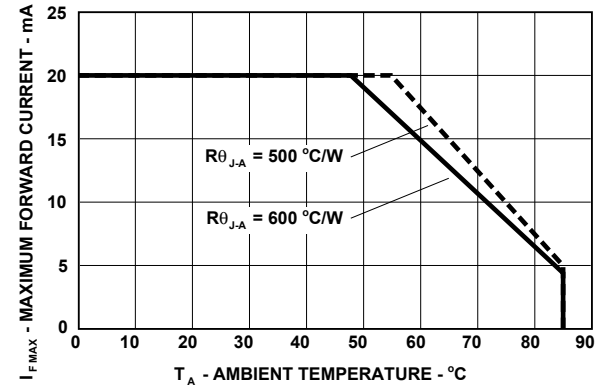

Figure 4. Maximum DC Forward Current vs. Ambient Temperature.
The derating curve, Figure 4, is a function of drive current,  $T_{JMAX}$  and  $R_{\theta_{J-A}}$ . Typically derating curves are given from two thermal resistance junction-to-ambient conditions,  $R_{\theta_{J-A}} = 500^{\circ}C/W$  (dashed line) and  $R_{\theta_{J-A}} = 600^{\circ}C/W$  (solid line). These values are based on the different PCB materials as the thermal resistance pc-to-ambient will be different. The derating curves are lines of  $T_{JMAX}$  with slopes equal to the specific maximum  $R_{\theta_{J-A}}$  values indicated, intersecting the temperature axis at the maximum LED junction temperature point with zero current. Operation of the LED device at a particular drive current should be at or below a derating curve with a thermal resistance-to-ambient at or less than the maximum value indicated for that curve.
In order to determine the derated drive conditions from the datasheet for an elevated ambient temperature, the value for  $R\theta_{J-A}$  must be determined. Once the value for  $R\theta_{J-A}$  has been established, the required current derating can be determined for safe operation at the elevated temperature directly from Figure 4. The basic design steps are:
Step 3: From Figure 4, the maximum allowable DC forward current at  $T_A (60^\circ\text{C})$  is 17mA.